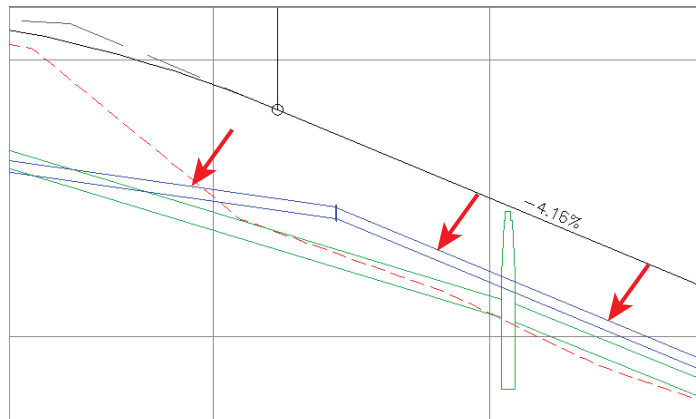

FIGURE 15.4 Pressure network parts (indicated with red arrows) shown in profile view along with other profile information
- 8. Click one of the grid lines of the Madison Lane profile view in the top-right viewport. The waterline parts are displayed in the profile view, as shown in Figure 15.4.